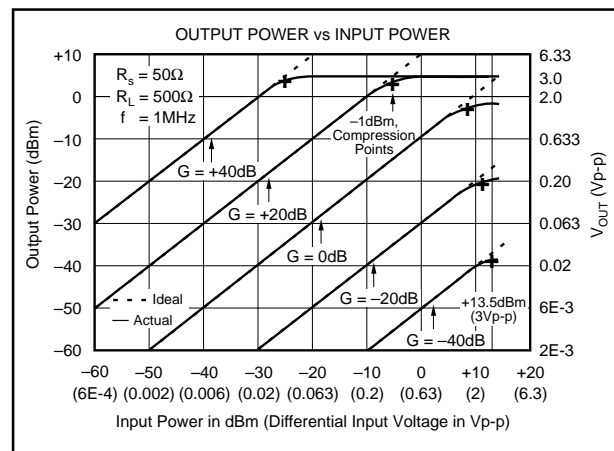

FIGURE 2. Input and Output Range.
NOTES: (1) See Input/Output Range discussion in Applications Information Section (Figure 2). (2) Gain is laser trimmed and tested at gains of -40dB, 0dB, +15dB, +25dB, and +40dB;  $V_{IN} = 1Vp-p$  for gains less than 0dB;  $V_{OUT} = 1V$  for gains of 0dB to +40dB. (3) Output offset change from offset at  $G = -40dB$ . (4) Gain = +40dB; Input step of 2V to 2mV; time required for output to return from saturation to linear operation. (5)  $V_{IN} = 7mVp-p$ ,  $V_{OUT} = 700mVp-p$  (250mVrms); Output Power = -10dBm/line, equal amplitude tones of 5MHz  $\pm 500Hz$ ,  $G = +40dB$ . See typical performance curves. (6) With  $R_S = 0\Omega$ , and noise bandwidth of 1MHz.  $IDR = 20 \log (V_{ORMS}/(e_{ORMS} \times \sqrt{BW}))$ ; where  $V_{ORMS}$  is rms output voltage,  $e_{ORMS}$  is output noise spectral density, and BW is noise bandwidth.
The VCA610's  $80\text{dB}$  gain range allows the user to handle an exceptionally wide range of input signal levels. If the unit's input and output voltage range specifications are exceeded, however, signal distortion and amplifier overloading will occur. The VCA610's maximum input and output voltage range is best illustrated in Figure 2.
Figure 2 plots output power vs input power for five voltage gains spaced at  $20\text{dB}$  intervals. The  $1\text{dBm}$  compression points occur where the actual output power (solid lines) deviates by  $-1\text{dBm}$  from the ideal output power (dashed lines). Compression is produced by different mechanisms depending on the selected gain. For example, at  $G = -40\text{dB}$ ,  $1\text{dBm}$  compression occurs when the input signal approaches approximately  $3V_{p-p}$  ( $13.5\text{dBm}$  for  $R_S = 50\Omega$ ). Input overloading is the compression mechanism for all gains from  $-40\text{dB}$  to about  $-5\text{dB}$ . For gains between  $-5\text{dB}$  and  $+5\text{dB}$ , the compression is due to internal gain stage overloading. Compression over this gain range occurs when the output signal becomes distorted as internal gain stages become overdriven. At  $G = 0\text{dB}$ ,  $1\text{dBm}$  compression occurs when the input exceeds approximately  $1.5V_{p-p}$  ( $7.5\text{dBm}$ ). At gains greater than about  $5\text{dB}$ , the compression mechanism is due to output stage overloading. Output overloading occurs
As shown in Figure 2, the onset of overload occurs whenever the actual output begins to deviate from the ideal expected output. If possible, the user should operate the VCA610 within the linear regions shown in order to minimize signal distortion and overload delay time. However, instances of amplifier overload are actually quite common in Automatic Gain Control (AGC) circuits which involve the application of variable gain to signals of varying levels. The VCA610's design incorporates circuitry which allows it to recover from most overload conditions in  $200\text{ns}$  or less. Overload recovery time is defined as the time required for the output to return from overload to linear operation following the removal of either an input or gain control overdrive signal.